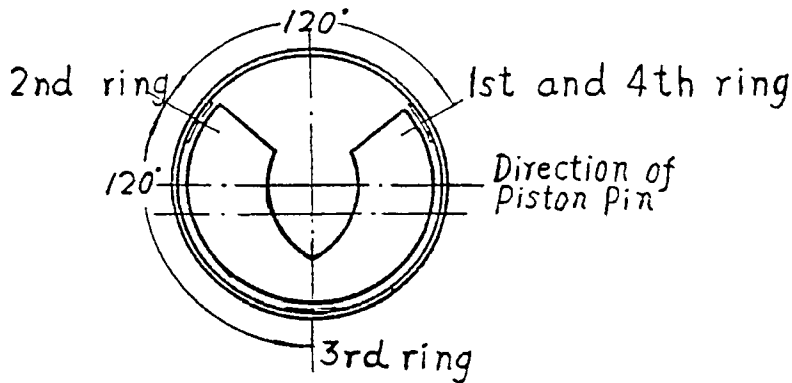

Fig. V-3
(2) When the piston ring is placed into the ring groove, check the gap (the first ring is 0.3 ~ 0.50mm the others are 0.25 ~ 0.4mm) and the side clearances between the ring and its groove (the first ring is 0.05 ~ 0.095mm, the others are 0.03 ~ 0.07mm). The piston ring gaps in the grooves should be staggered by spacing 120° apart from one another. It is much important that the gap direction of the piston rings should not coincide with the center line of the piston pin hole (Fig. V-3)